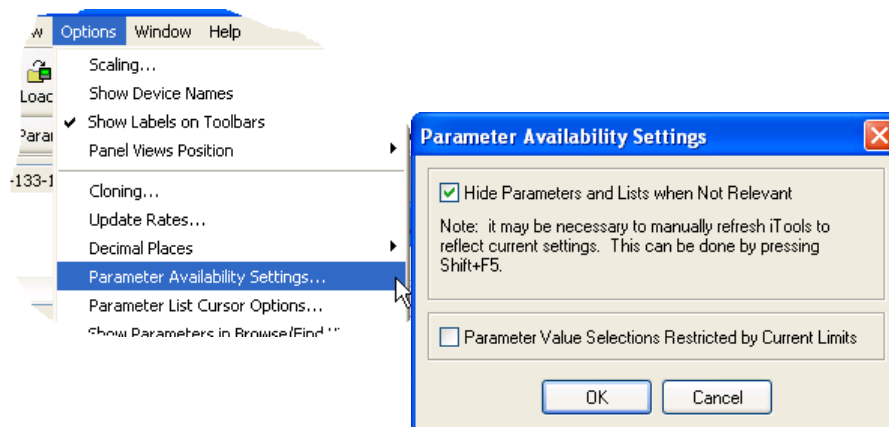

Figure 7.4.1b Show/Hide parameters
- Hidden Parameters. By default, iTools hides parameters which are considered irrelevant in the current context. Such hidden parameters can be shown in the table using the 'Parameter availability' settings item of the Options menu (Figure 7.4.1b). Such items are displayed with a shaded background.